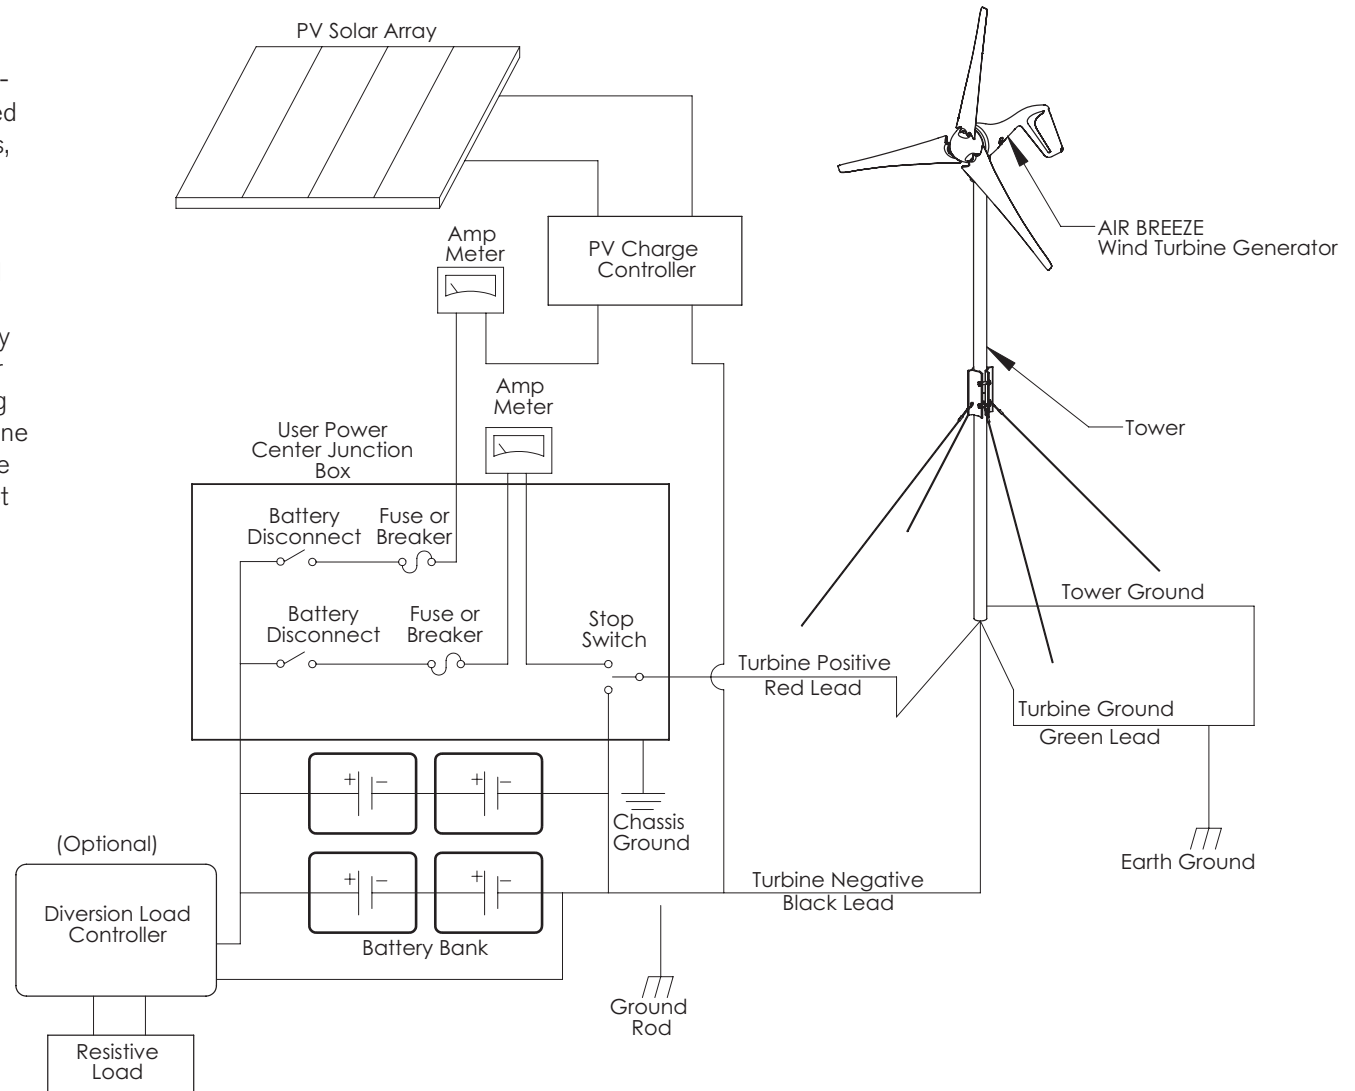

Fig. 11. Hybrid System with Solar Panels
**Fig. 11** represents a typical “hybrid” system with solar panels. Some charging sources (solar panels, fuel-powered generators, additional wind generators, etc.) connected to the same system may cause interference with the Air Breeze internal electronics and result in pre-regulation. The interference will not harm the turbine; it will just cause it to spin slowly as if “braked” or it may stop the turbine. If this occurs, test for possible interference by disconnecting the other charging sources to determine the possible cause. If possible wire the turbine and PV panels to their own set of battery posts.